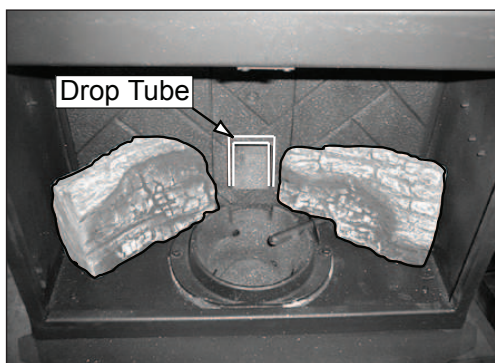

Figure 20.2
3. Continue placing the last 3 logs around the firepot as show in **Figures 20.2, 20.3 and 20.4**. Be careful not to block the drop tube in the back of the firebox where pellets feed into the firepot.